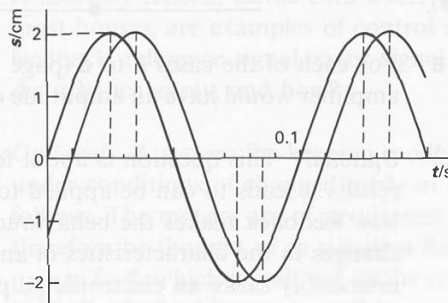

Figure I85
- 42(I)** The graph of figure I85 illustrates two oscillations, each with amplitude 2 cm and frequency 10 Hz, with a time lag between one and the other of 0.01 s, representing a phase difference of $1/10$ cycle, or 0.2π .